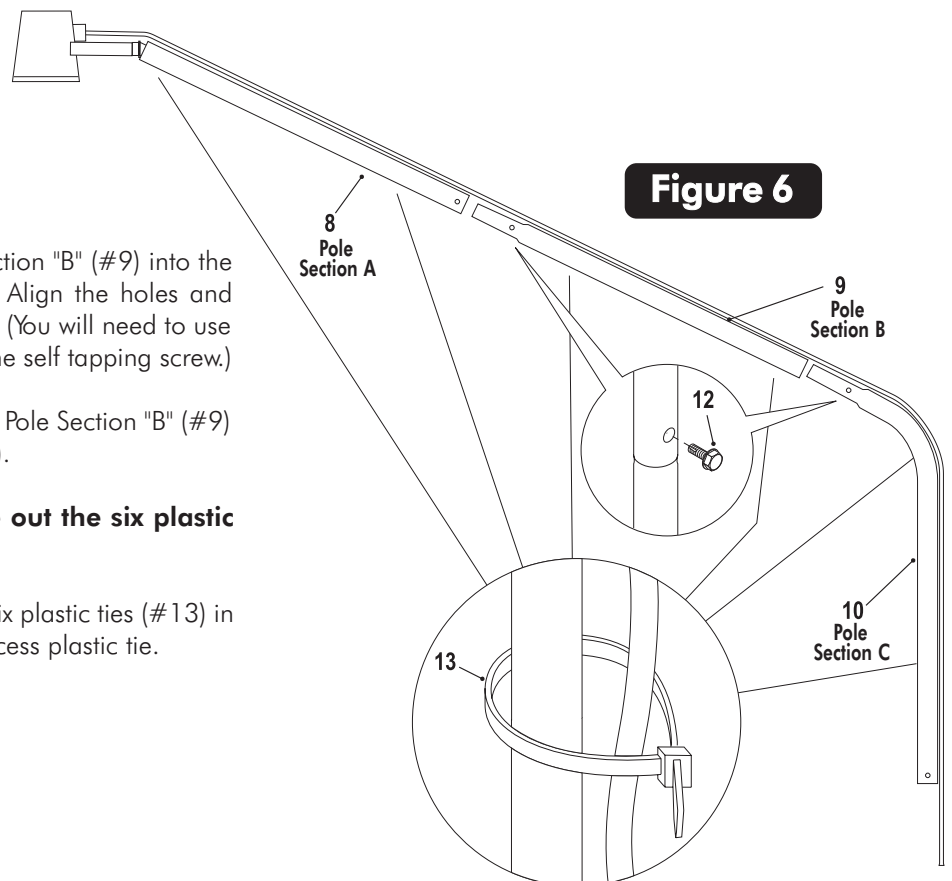

Figure 6
- Secure the electrical cord to the pole with six plastic ties (#13) in the locations shown in Figure 6. Cut off excess plastic tie.